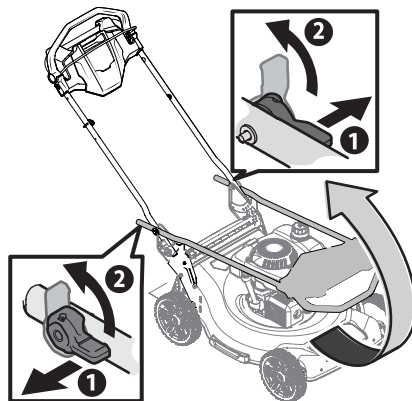

Figure 1
2. Turn the handle adjustment levers to the unlocked position to lift the handle. See Figure 1.